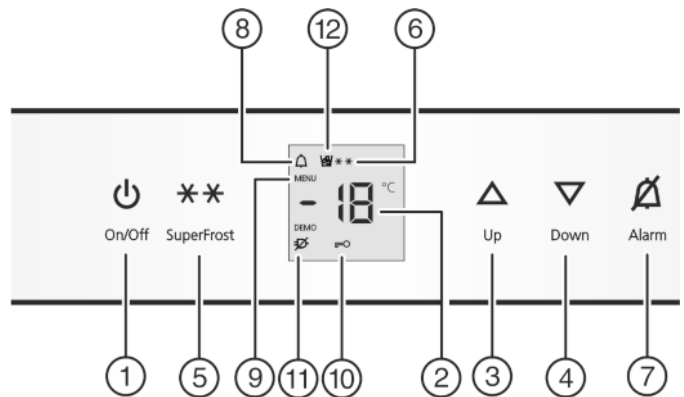

Fig. 2
- ▶ Press On/Off button *Fig. 2 (1)*.
- ▶ To activate the setting mode: press SuperFrost button *Fig. 2 (5)* for about 5 s.
- ▷ The menu symbol *Fig. 2 (9)* shines.
- ▶ Briefly press the SuperFrost button *Fig. 2 (5)* to confirm.
- ▶ To activate the child lock, briefly press the SuperFrost button *Fig. 2 (5)*.
- ▷ The child lock symbol *Fig. 2 (10)* shines. **c** flashes in the display.
- ▶ to deactivate the child lock, briefly press the SuperFrost button *Fig. 2 (5)*.
- ▷ The child lock symbol *Fig. 2 (10)* goes out. **c** flashes in the display.
- ▶ To deactivate the set-up mode: press On/Off button *Fig. 2 (1)*.
- ▶ Press alarm button *Fig. 2 (7)*.
The temperature display and the alarm symbol *Fig. 2 (8)* flash at the same time.
The audible alarm is automatically silenced, the alarm symbol *Fig. 2 (8)* goes out and the temperature display stops flashing when the temperature is sufficiently cold again.
- ▶ To set the temperature higher: press Up button *Fig. 2 (3)*.
- ▶ To set the temperature lower: press Down button *Fig. 2 (4)*.